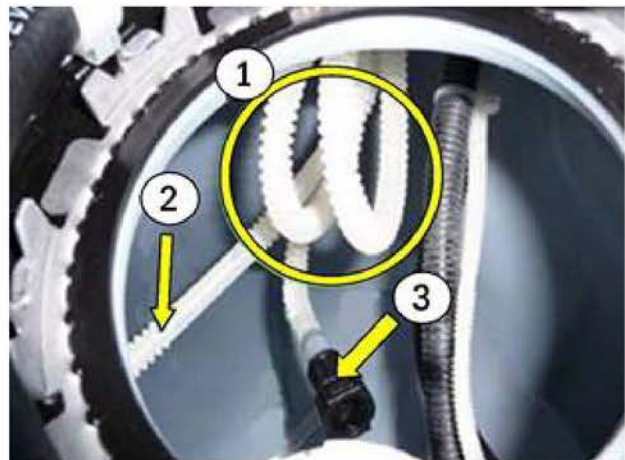

Figure 5. Curved fuel lines (1), fuel supply pipe (2), and fuel line.
6. Pull the curved fuel lines (Figure 5) as far to the right of the vehicle as possible without using force.